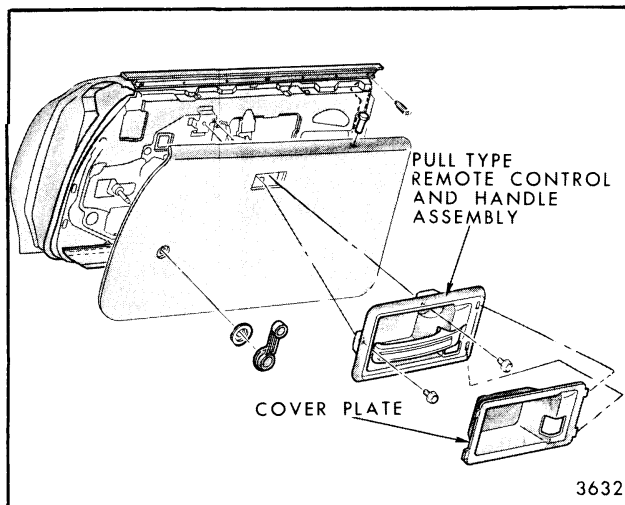

Fig. 5-9-Typical Door Lock Remote Control and Handle Assembly Installation
equipped with screw retained handles, the screws are either exposed or covered by a remote control cover plate that can be removed as shown in Figures 5-9 and 5-10.
6. On styles with remote control cover plates (Figs. 5-9 and 5-71), remove exposed screws securing cover plate to door inner panel.